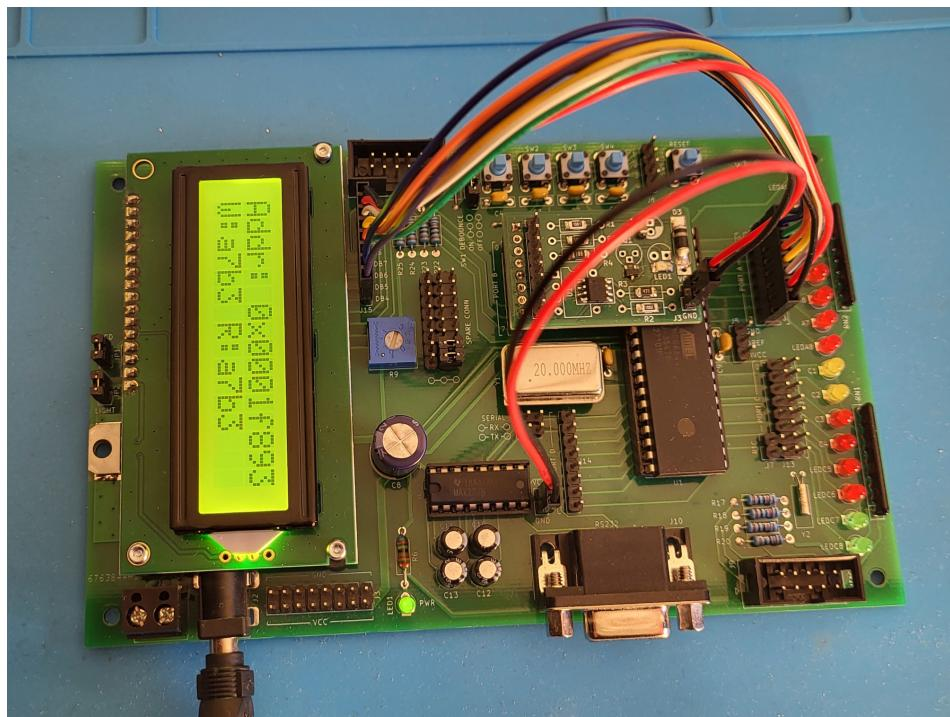

Figure 3: Setup for the Bit-Banging Test
**Preparation** Plug the SRAM board onto Port B (J12) facing towards the side with the LEDs and provide it with power from connector J3 or J4 of the evaluation board. Connect the LCD (J15) to Port A (J11), i.e. connect R/W to Port A6, EN to Port A5, RS to Port A4, DB7 to Port A3, DB6 to Port A2, DB5 to Port A1, and DB4 to Port A0. See Figure 3.